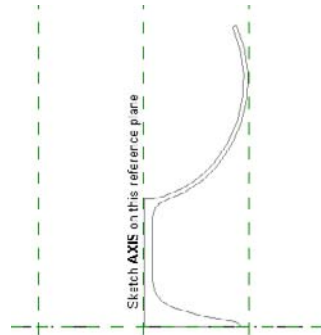

Figure 17.28
4. Choose the Boundary Line tool to sketch half of the profile (as shown in Figure 17.28).